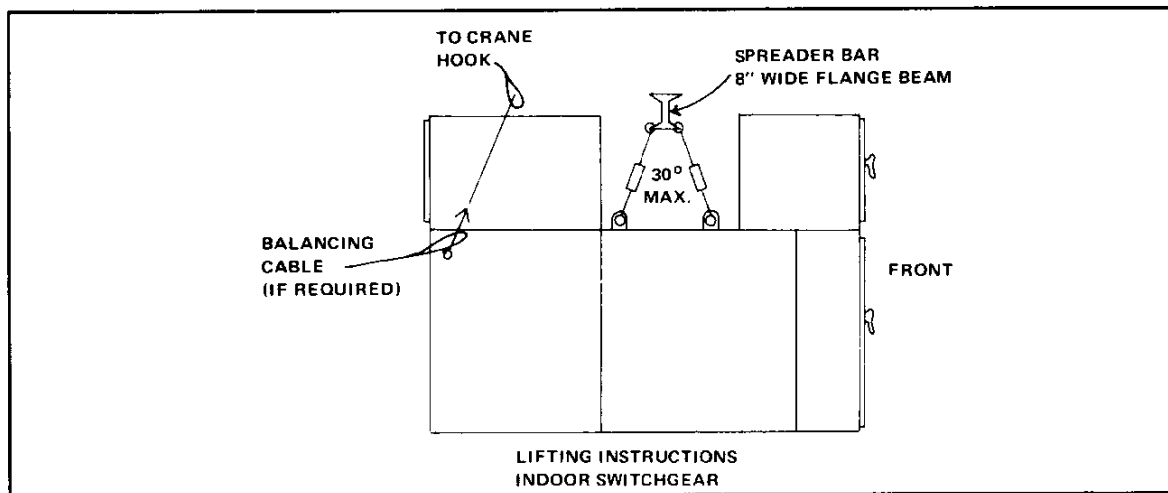

Figure 2-3
3. Before lifting load completely off shipping skid, check load for balance. If necessary, add balance cables to ends to shipping section as shown in Figure 2-3.